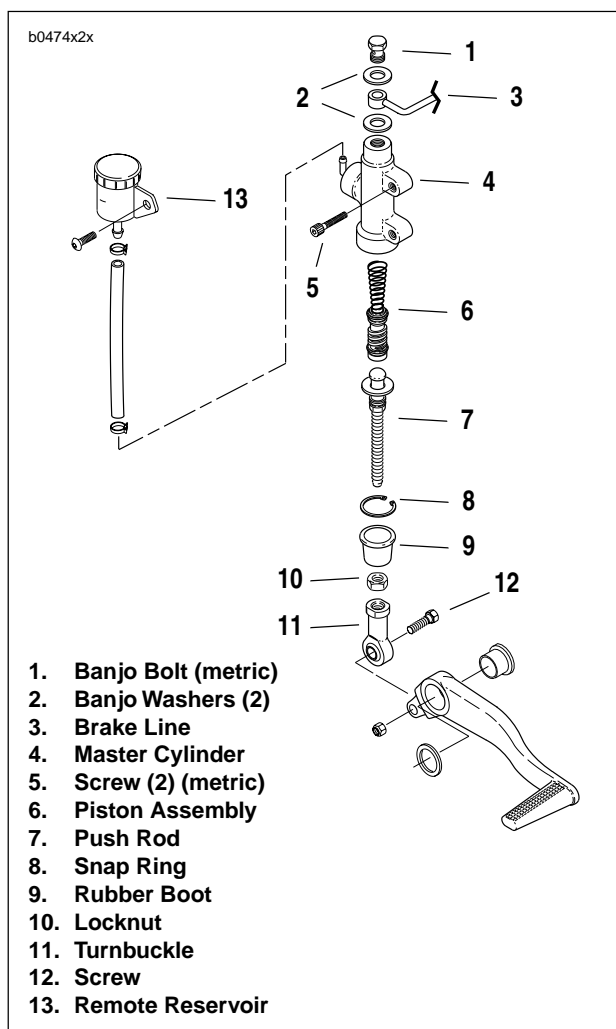

Figure 2-33. Rear Master Cylinder Assembly
2. See Figure 2-33. Remove banjo bolt (1) (metric) and two banjo washers (2) to detach brake line (3) from master cylinder (4). Discard banjo washers.
3. See Figure 2-33. Connect brake line (3) to master cylinder (4) with two **new** banjo washers (2) and banjo bolt (1) (metric). Tighten to 16-20 ft-lbs (22-27 Nm).